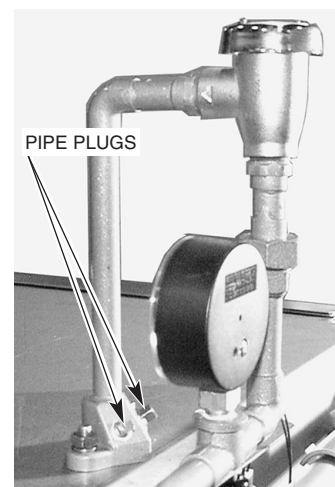
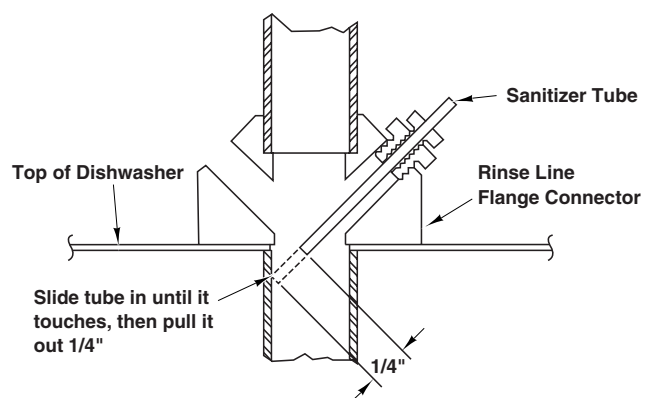

Fig. 20
Fig. 21
The rinse line flange connector on top of the dishwasher has two  $\frac{1}{8}$ " NPT pipe plugs (Fig. 20).
- Remove the plug(s) (Fig. 20) for installation of the rinse aid dispenser tube and / or chemical sanitizer tube, as needed.
- Remove the pipe plug (Fig. 20) for installation of the chemical sanitizer tube. To assure an unobstructed flow of sanitizer, locate the sanitizer tube in the center of water flow by drilling the sanitizer tube fitting so that its inside diameter is equal to the outside diameter of the tube. Slide the tube into the flange until it touches the opposite side and then pull it back out  $\frac{1}{4}$  inch (Fig. 21).